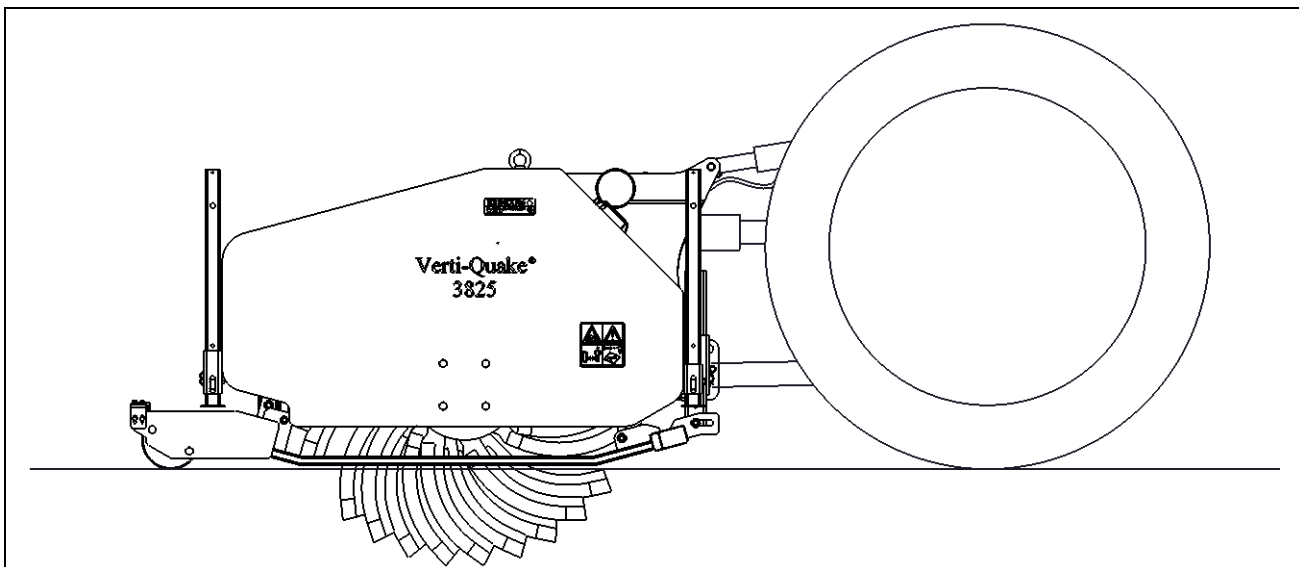

Fig. 12
**This reduces the pressure of the machine on the floor and prevents damage to the surface!! (fig. 12)**